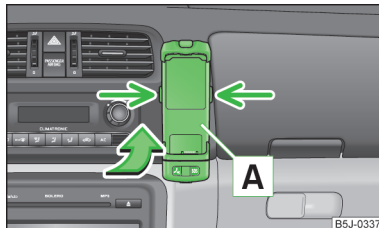

Fig. 104
- » First of all push adapter **A** in the direction of the arrow » Fig. 104 into the mount as far as the stop. Then press the adapter slightly downwards, until it locks securely into position.
- » Press the side locks on the mount » Fig. 104 at the same time and remove the adapter with the mobile phone.